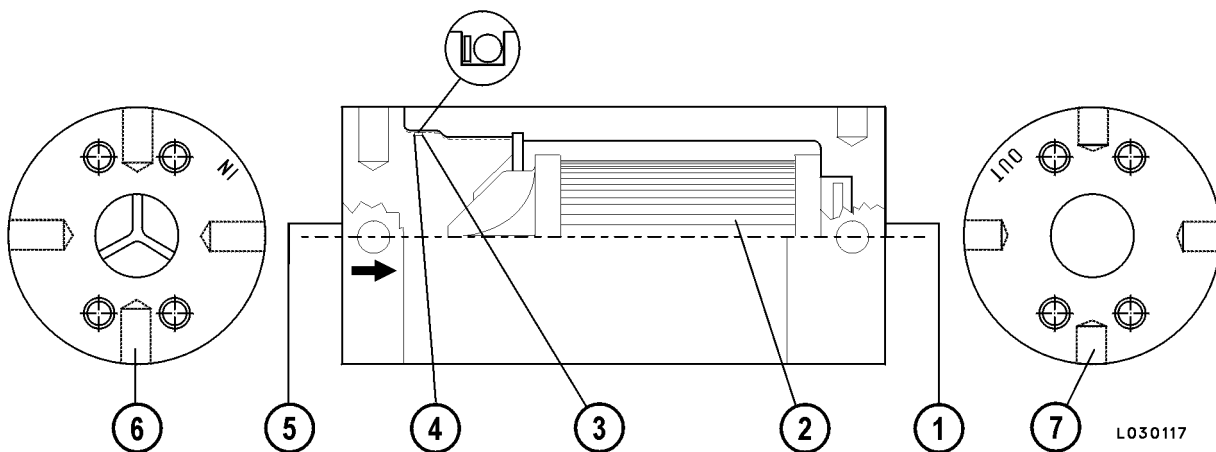

FIGURE 40-7. FILTER ASSEMBLY
1. Place filter assembly (Figure 40-7) on work bench. Using a spanner tool at both ends, hold housing (1) and loosen (counter-clockwise) inlet housing (5).